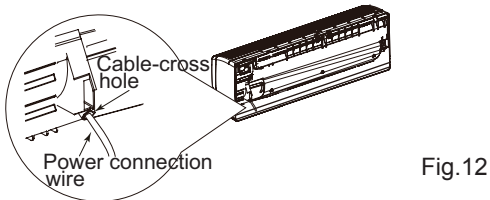

Fig. 12
- (2) Make the power connection wire go through the cable-cross hole at the back of indoor unit and then pull it out from the front side.(As show in Fig.12)